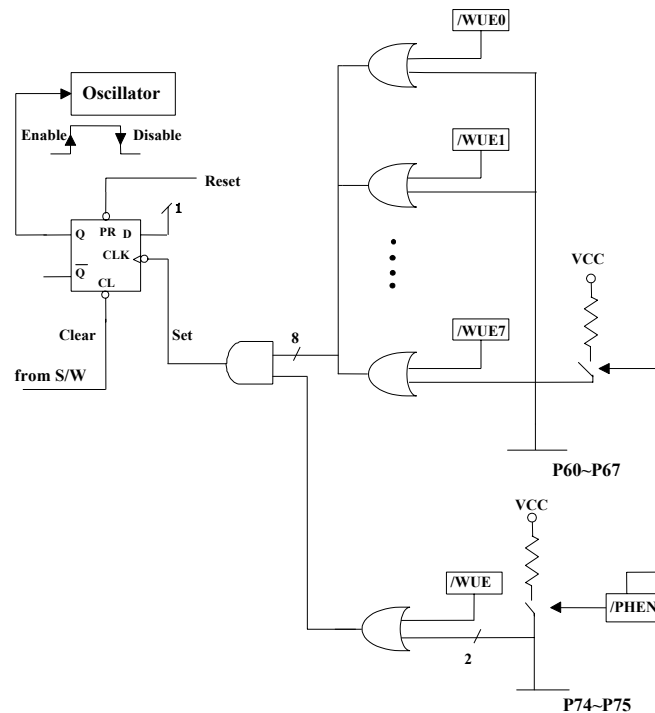

Fig. 5 Sleep Mode and Wake-Up Circuits on I/O Ports Block Diagram
- **Bit 4 (SLPC)** This bit is set by hardware at the low level trigger of wake-up signal and is cleared by software. SLPC is used to control the oscillator operation. The oscillator is disabled (oscillator is stopped, and the controller enters into SLEEP2 mode) on the high-to-low transition and is enabled (controller is awakened from SLEEP2 mode) on low-to-high transition. In order to ensure the stable output of the oscillator, once the oscillator is enabled again, there is a delay for approximately 18ms¹ (oscillator start-up timer, OST) before the next instruction of the program is executed. The OST is always activated by a wake-up event from sleep mode regardless of the Code Option bit ENWDT status is "0" or otherwise. After waking up, the WDT is enabled if the Code Option ENWDT is "1". The block diagram of SLEEP2 mode and wake-up invoked by an input trigger is depicted in Fig. 5. The SLPC bit can be read and written.
(A) Any of the wake-up pins is “0” as illustrated in Figure. 5. Upon waking, the controller will continue to execute the succeeding address. Under this case, before entering SLEEP2 MODE, the wake-up function of the trigger sources (P60~P67 and P74~P75) should be selected (e.g., input pin) and enabled (e.g., pull-high, wake-up control). It should be noted that after waking up, the WDT is enabled if the Code Option bit ENWDT is “0”. The WDT operation (to be enabled or disabled) should be appropriately controlled by software after waking up.